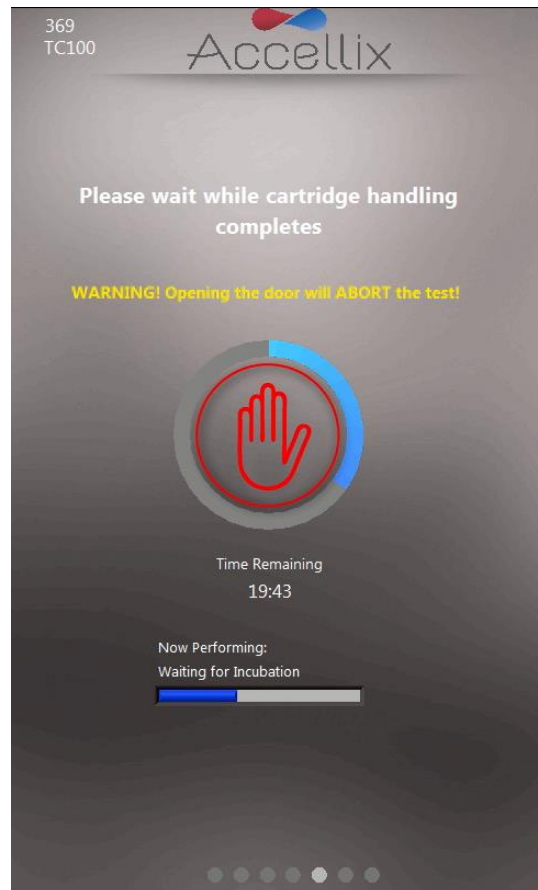

Figure 38: 'Progress Indicator and Time Remaining' screen
11. The **Progress screen** (Figure 38) displays a progress indicator and a **Time Remaining** countdown timer. The user can monitor the test progress and approximate time remaining.
Note: To stop an assay that is in progress, the user can tap **Stop**, the red hand at the center of the progress indicator (see Figure 38). Refer to Section **13.3 Termination of an Assay Run**.
The **Abort** icon may be used to terminate an assay run (Figure 38).